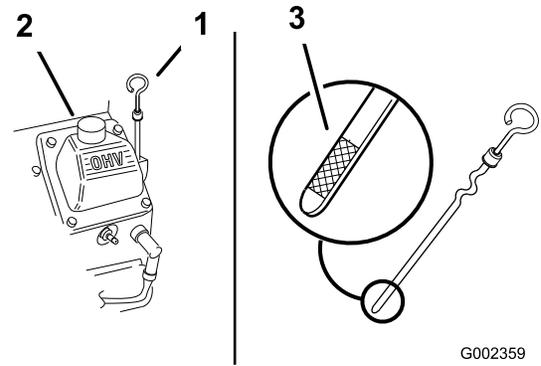

Figure 20
3. Clean around the oil dipstick (Figure 20) so that dirt cannot fall into the filler hole and damage the engine.
4. Unscrew the oil dipstick and wipe the end clean (Figure 20).
5. Slide the oil dipstick fully into the filler tube, but do not thread it onto the tube (Figure 20).
6. Slowly pour approximately 80% of the specified oil into the filler tube (Figure 20).